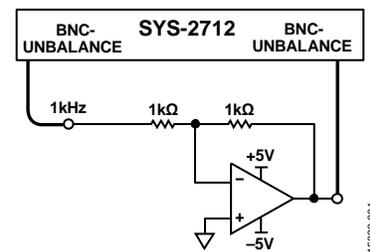
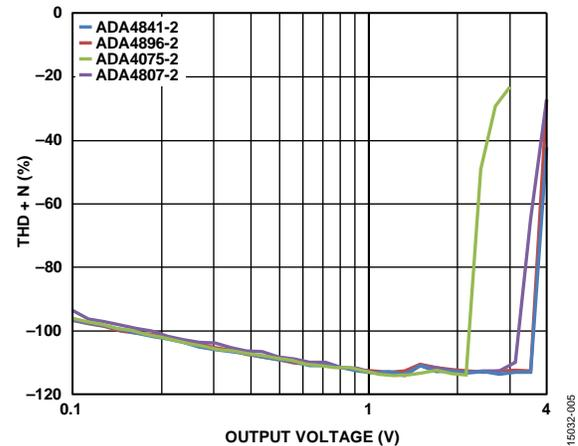

Figure 4. THD + N Test Without Load
Figure 5. THD + N Result of Recommended Operational Amplifiers
- THD + N is the key specification. See Figure 4 and Figure 5 for the test circuit and test result of THD + N, respectively.
Typically, an audio DAC current output acts as a resistor in series with a voltage source. That is, the I to V circuit can be considered an inverting amplifier circuit. For simplicity, gain = -1 to determine the THD + N performance of operational amplifiers (see Figure 5). The following details the procedure to measure THD + N vs. V_{OUT} using the SYS-2712 from Audio Precision:
Figure 5 shows THD + N vs. V_{OUT} results for the recommended operational amplifiers. When V_{OUT} is less than 1.2 V rms, THD + N performance of the four operational amplifiers is similar.